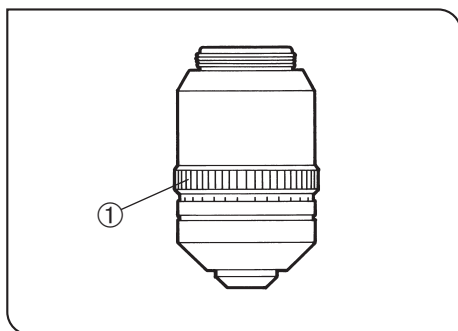

Fig. 41
- If the cover glass thickness is known, set the correction collar ① to that scale value. (Fig. 41)
- If the cover glass thickness is unknown, adjust the correction collar ① and fine adjustment knob alternately until the positioning with the highest contrast is obtained.
- Ⓞ Be careful not to touch the correction collar ① when turning the revolving nosepiece.